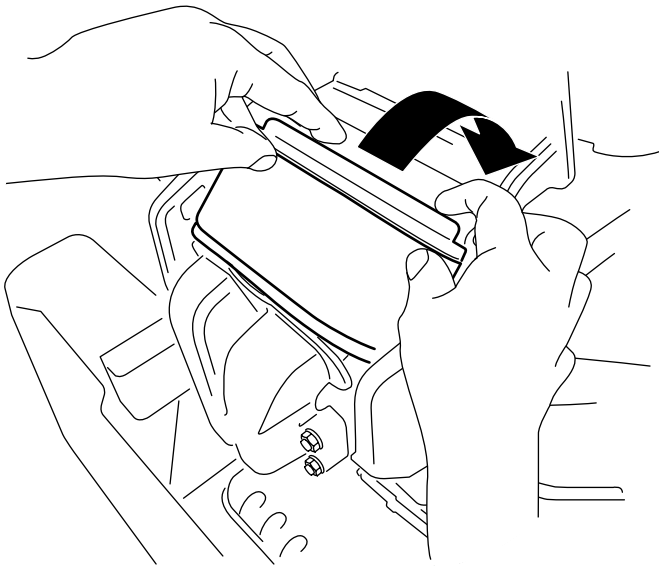

Figure 70
3. Rotate the filter down into the chamber and fully seat it against the manifold (Figure 70).